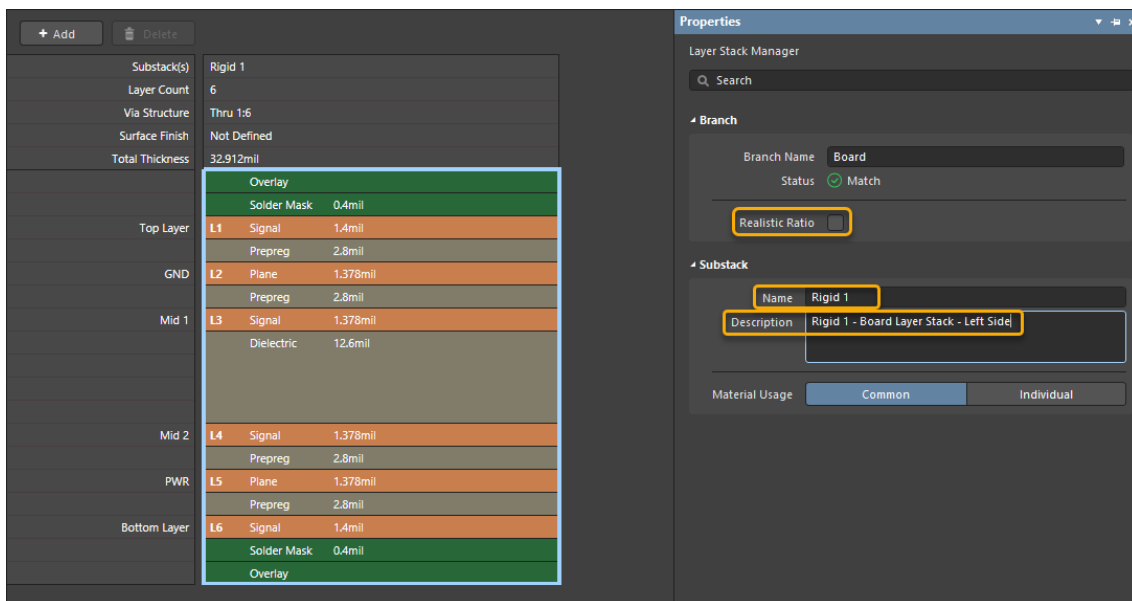

Figure 10. Change Layer Stack Properties in Properties Panel
29. With the first stack displayed as the active Stackup, click on the *Overlay* section to open the *Properties* panel and follow the steps below, Figure 10: